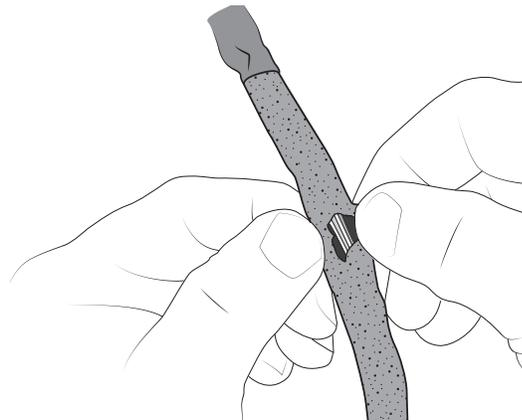

Figure 11
3. For vehicles **with** factory map lights, cut an access hole into the wiring cover of the factory mirror wiring harness (fig. 11).